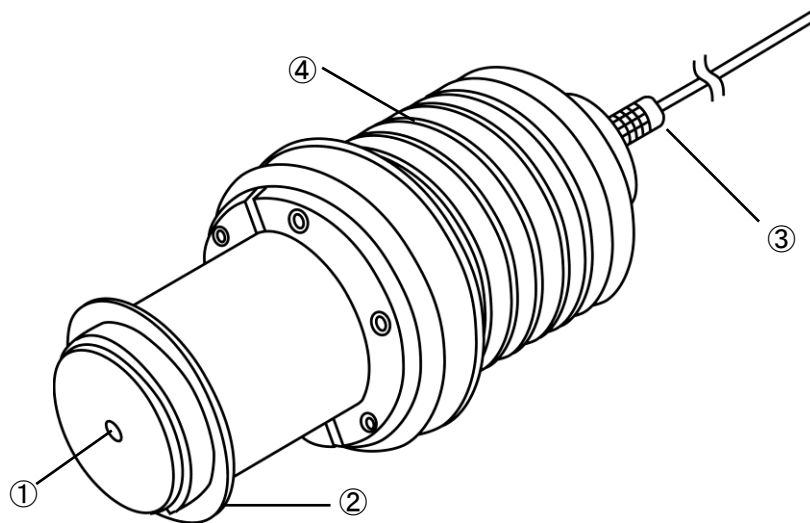
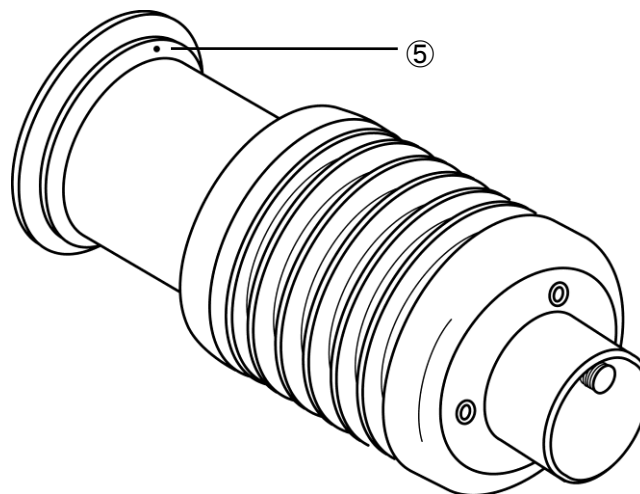

Fig. 4-1
Fig. 4-2
(1) Detection Section (Fig. 4-1 and Fig. 4-2)
① Prism